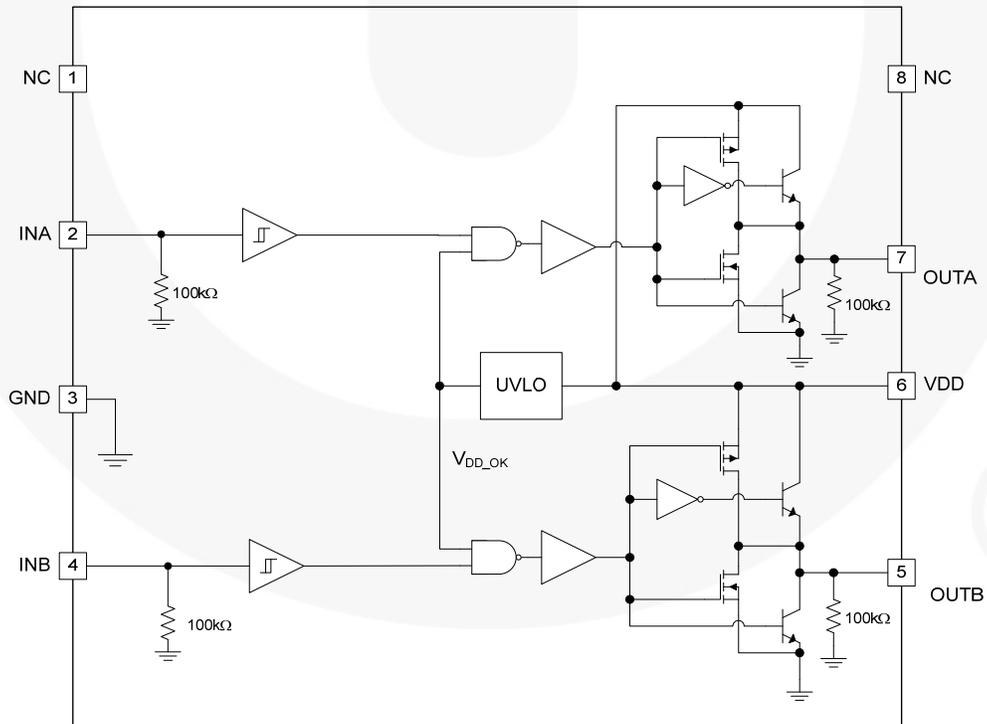

Figure 5. FAN3217 Block Diagram
10. For any inverting inputs pulled LOW, non-inverting inputs pulled HIGH, or outputs driven HIGH; static I_{DD} increases by the current flowing through the corresponding pull-up/down resistor shown in Figure 4 and Figure 5.